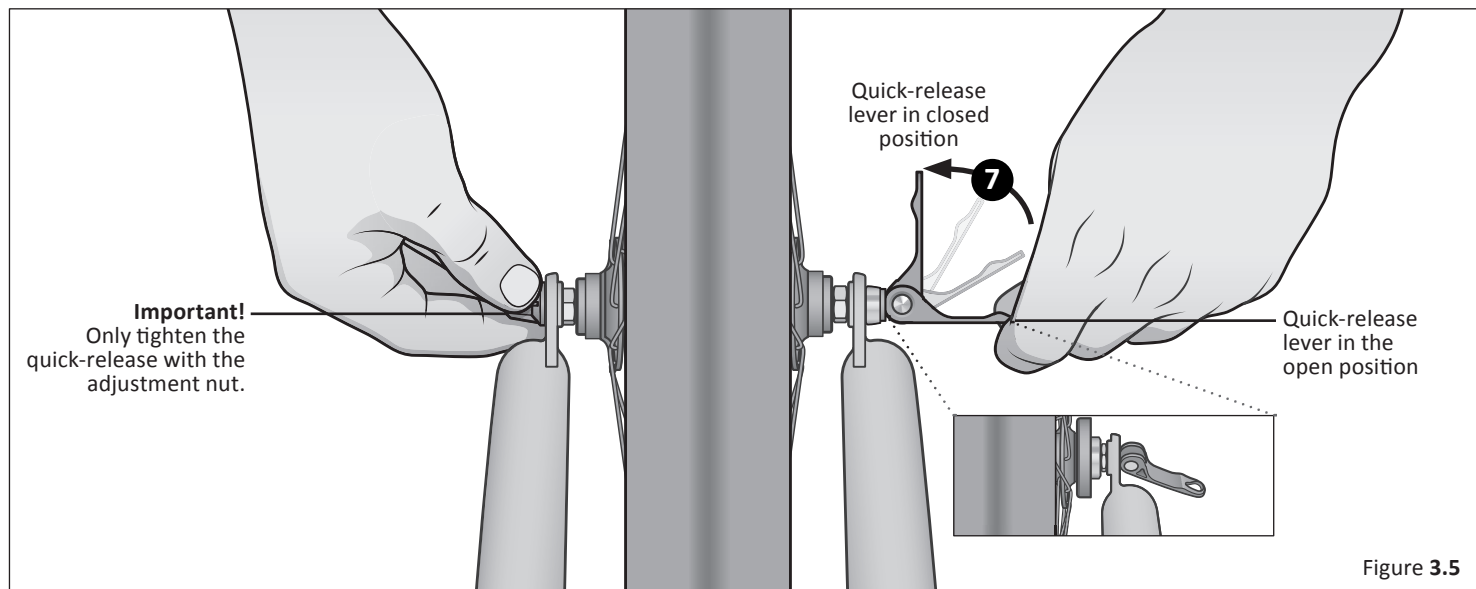

Figure 3.5
- 7 Move the quick-release lever into the **open** position. With one hand on the quick-release lever and one hand on the adjustment nut, start to hand tighten the adjustment nut until you start to feel some resistance against the fork. **Figure 3.5**